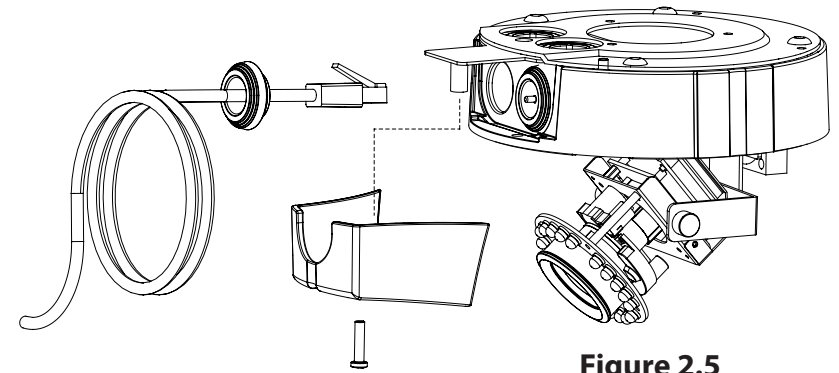

Figure 2.5
1. Place the plastic cable cover onto the dual-holed plate and attach it using the screw. (Figure 2.5)